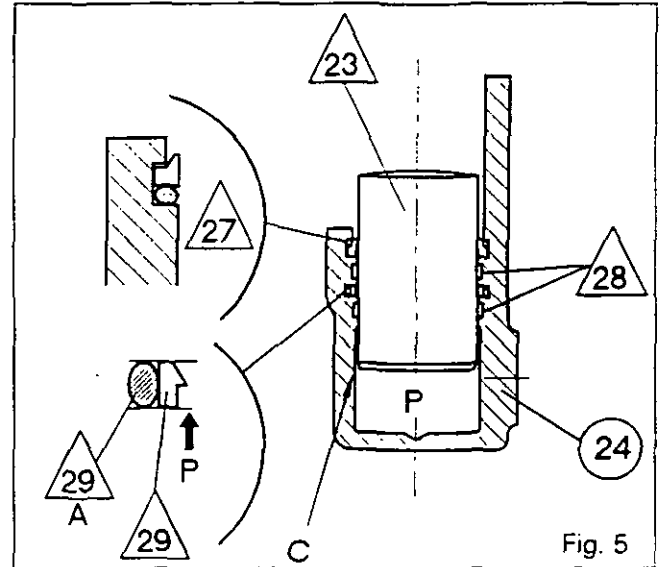

Fig. 5
5. Clean the slave cylinder (24) (Fig. 5) and the seal grooves.
6. Shape the guide rings /28\ so as to decrease their diameter by approximately one third. Using pliers and wearing protective equipment, install the rings in their grooves (Fig. 5), with the knurled face in contact with the piston /23\.
**Note : The sealing bushes must be positioned with their lips facing the pressure side (Fig. 5).**
11. Check that there are no burrs on the pistons /23\ . Fit the pistons, with the "C" chamfers facing the inside of the cylinders (Fig. 5).
14. If they were removed, fit unions (14) and (15).